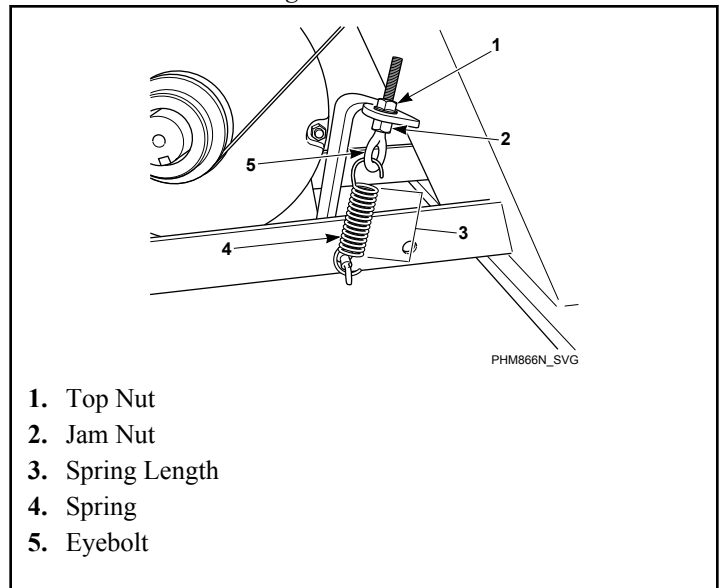

Figure 40
- **Frequency Gauge.** Tighten eyebolt top nut until the correct frequency (refer to *Table 33*) is obtained mid-span. Torque jam nut to spring bracket to 20.6 ± 2 ft.-lbs. Refer to *Figure 40* .
- **Tension Gauge.** Tighten eyebolt top nut until the proper belt gauge (refer to *Table 33*) is obtained mid-span. Torque jam nut to spring bracket to 20.6 ± 2 ft.-lbs. Refer to *Figure 40* .
- **Spring Length.** Tighten eyebolt top nut until the spring measures 4 3/4 inches, (45-65 pound models) or 4 inches (85-160 pound models) between the hooks. Torque jam nut to spring bracket to 20.6 ± 2 ft.-lbs. Refer to *Figure 40*.
- **Maintain Tension During Belt Removal.** If proper tension is achieved, tape the jam nut in place and loosen eyebolt top nut to release the belt. Replace belt and retighten eyebolt top nut back to jam nut position. Refer to *Figure 40*.